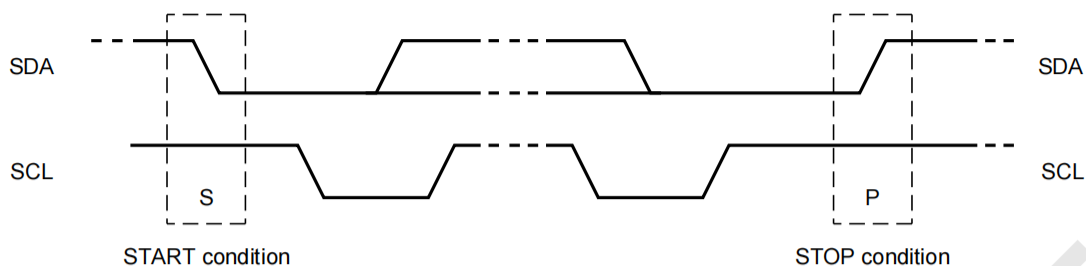

Fig 11. Definition of START and STOP conditions
When the bus is not busy, the data and clock lines are held high. A start condition (S) occurs when the data line is high on the falling edge and the clock line, and a stop condition (P) occurs when the data line is high on the rising edge and the clock line, see Figure 11.